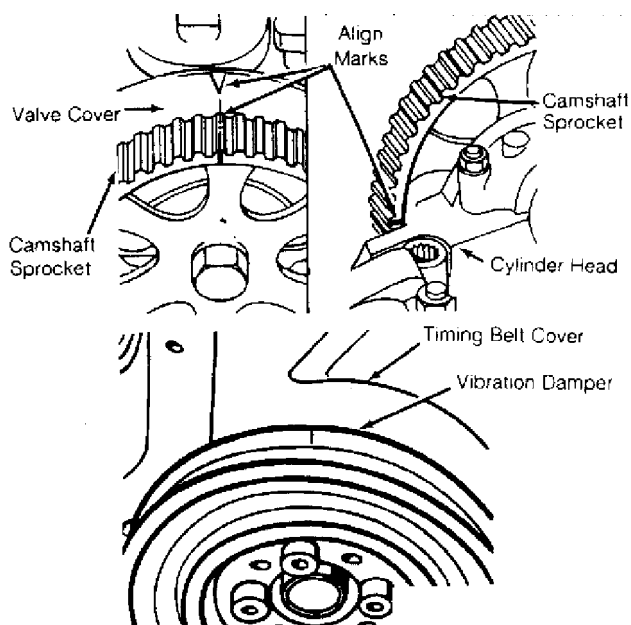

Fig. 10: Aligning 2.0L Camshaft & Crankshaft Pulley Timing Marks
2) If valve cover is installed, mark on front of camshaft sprocket must align with mark on valve cover. If valve cover is removed, place camshaft sprocket mark even with valve cover surface. See Figs. 10 and 11.
3) Align vibration damper mark with mark on lower timing belt cover. See Fig. 10. Install timing belt around camshaft sprocket. Install Timing Belt Tension Scale (VW 210). To tension belt, rotate belt tensioner clockwise until tension scale reads 13-14. By hand, rotate crankshaft 2 turns and check timing mark alignment. To complete installation, reverse removal procedure.